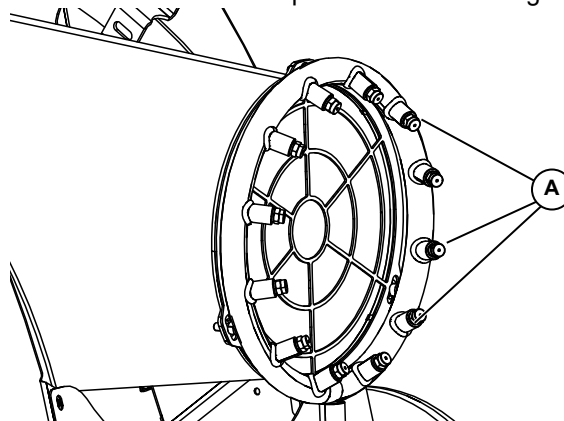

Figure 4-1. Cleaning the Unit
See Figure 4-1. After each use, rinse nozzles (A) with an antilimestone solution to prevent nozzle fouling.
1. See **Figure 4-1**. Remove nozzles (A) from blower.
See **Figure 4-1**. Lubricate transport support (A) and thrust bearing (B) on a semiannual basis.